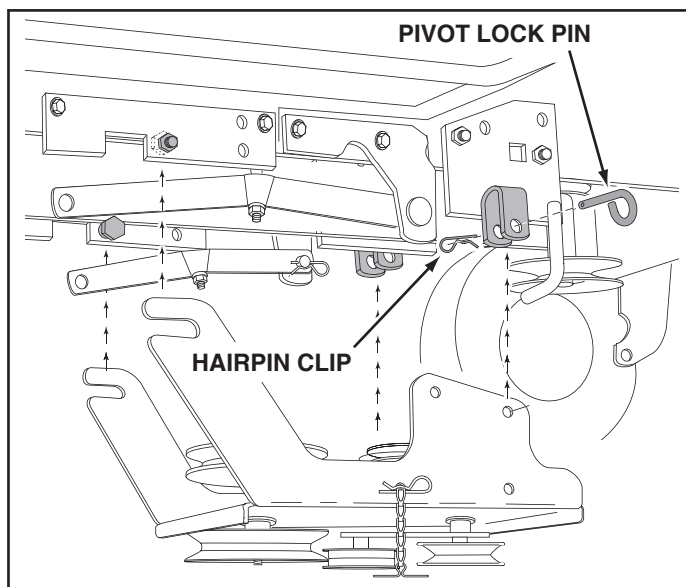

FIGURE 12
- Attach the rear of the clutch/idler assembly to the tractor frame by sliding the notched arms of the assembly onto the shoulder bolts assembled to the frame brackets. Lift the front of the assembly, positioning the upper idler pulley so that it clears the engine pulley. Attach the front of the assembly to the hanger brackets using two pivot lock pins and two hairpin clips. See figure 12.